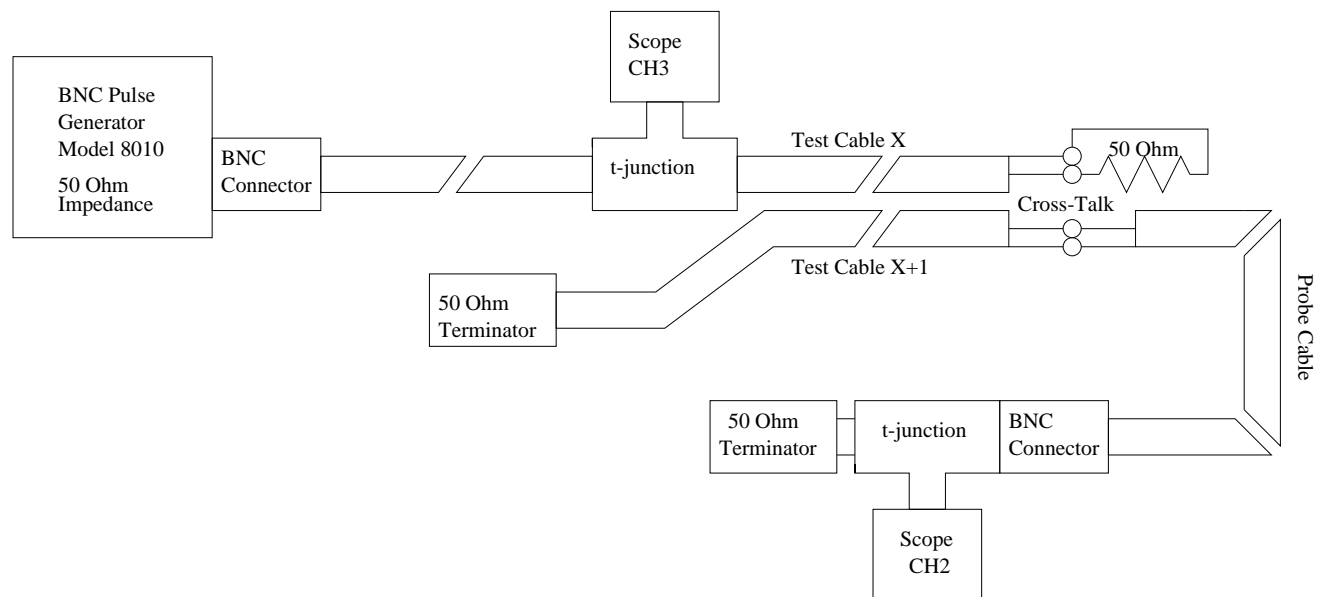

Figure 8: Setup used to test the cross talk observed on the cable.
5. Now, choose a cable, for example cable 0. Attach the test cable to the pins connected to cable 1. It is important to match the impedances on the dangling ends. Attach a 50Ω terminator to the BNC end of cable 1 and attach a 50Ω resistor to channel 0 on the header. See figure 8.